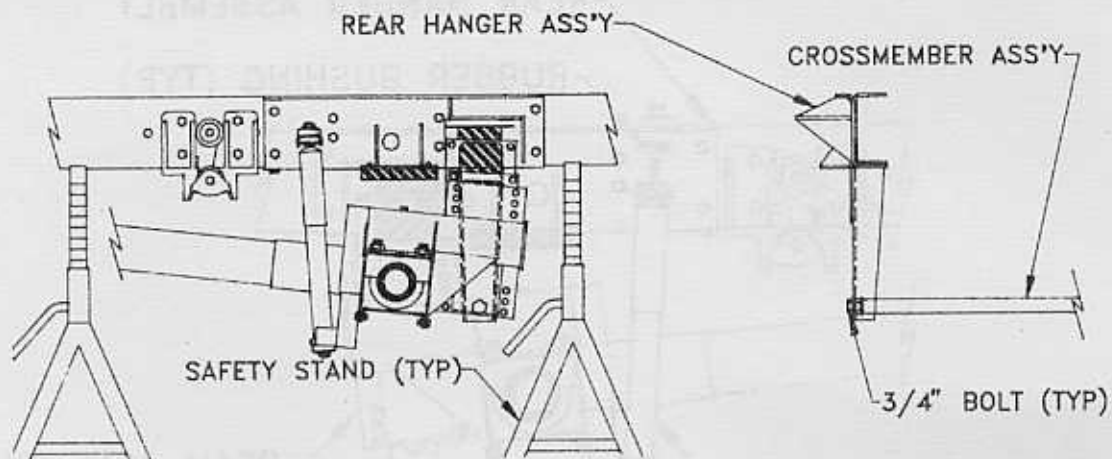

Figure 8: Replacement of Crossmember
- 1.) Remove 3/4" bolts securing crossmember assembly (See Figure 8). Remove crossmember.